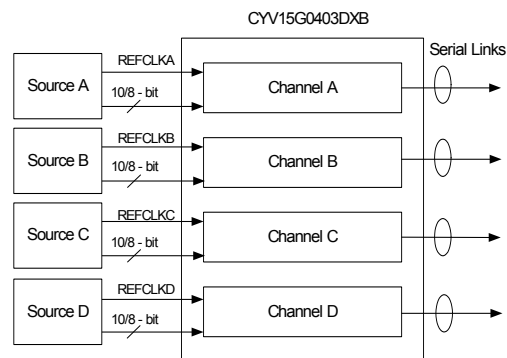

Figure 2. Example Showing Transfer of Data at the Same Data Rate but Different Reference Sources
3. Multiple channels pass traffic from the same protocol but different sources: Each channel can transmit traffic from the same protocol (same data rate) but the individual channels can be referenced by different clocks that need NOT be synchronous to each other. In other words, the reference clocks for each channel can have a frequency offset with respect to each other. An example of this application is shown in *Figure 2*.